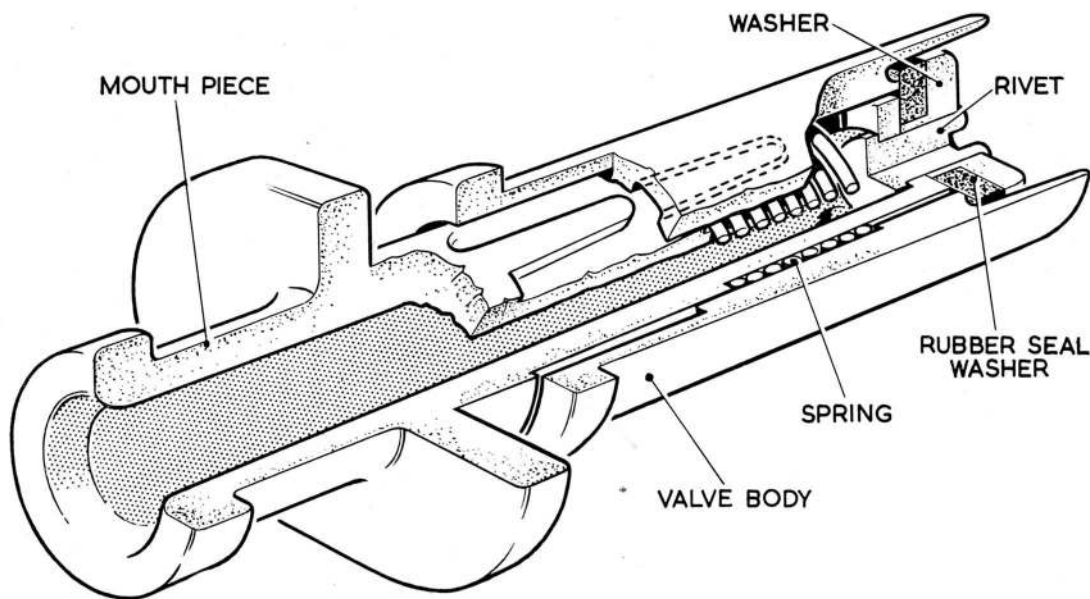

Fig. 7. Nylon oral inflation valve
16. The valve (*fig. 7*) consists of two hollow